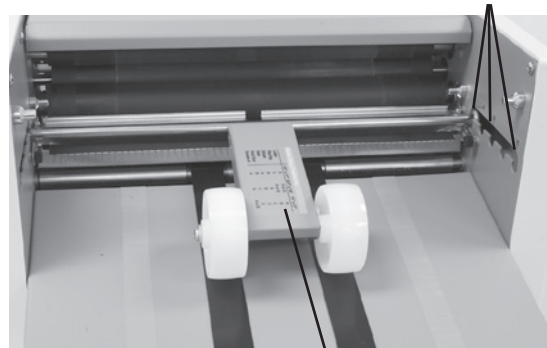

Fig. 6
3. Move the stacker wheels to the proper position for the paper size (Fig 6) (Refer to chart on page 7).